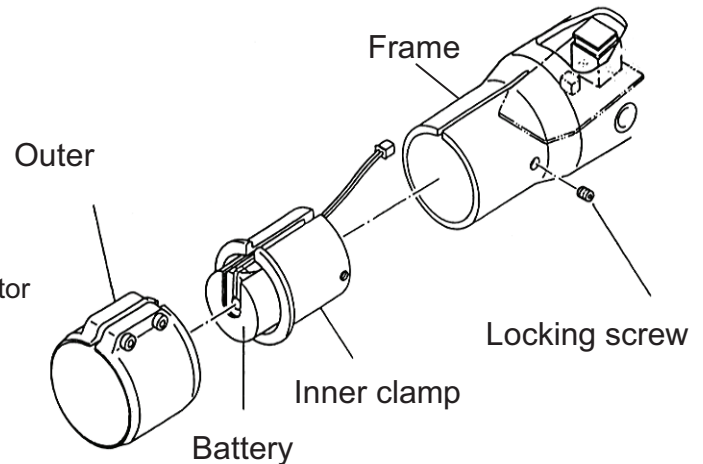

Fig.10 Removing the clamp
3. Remove the outer clamp off the frame, remove the locking screw, then pull out the inner clamp together with battery case. (See Fig.10.)
* In setting the inner clamp, have the battery connector be on the front surface side of the circuit board, as shown in Fig.10.